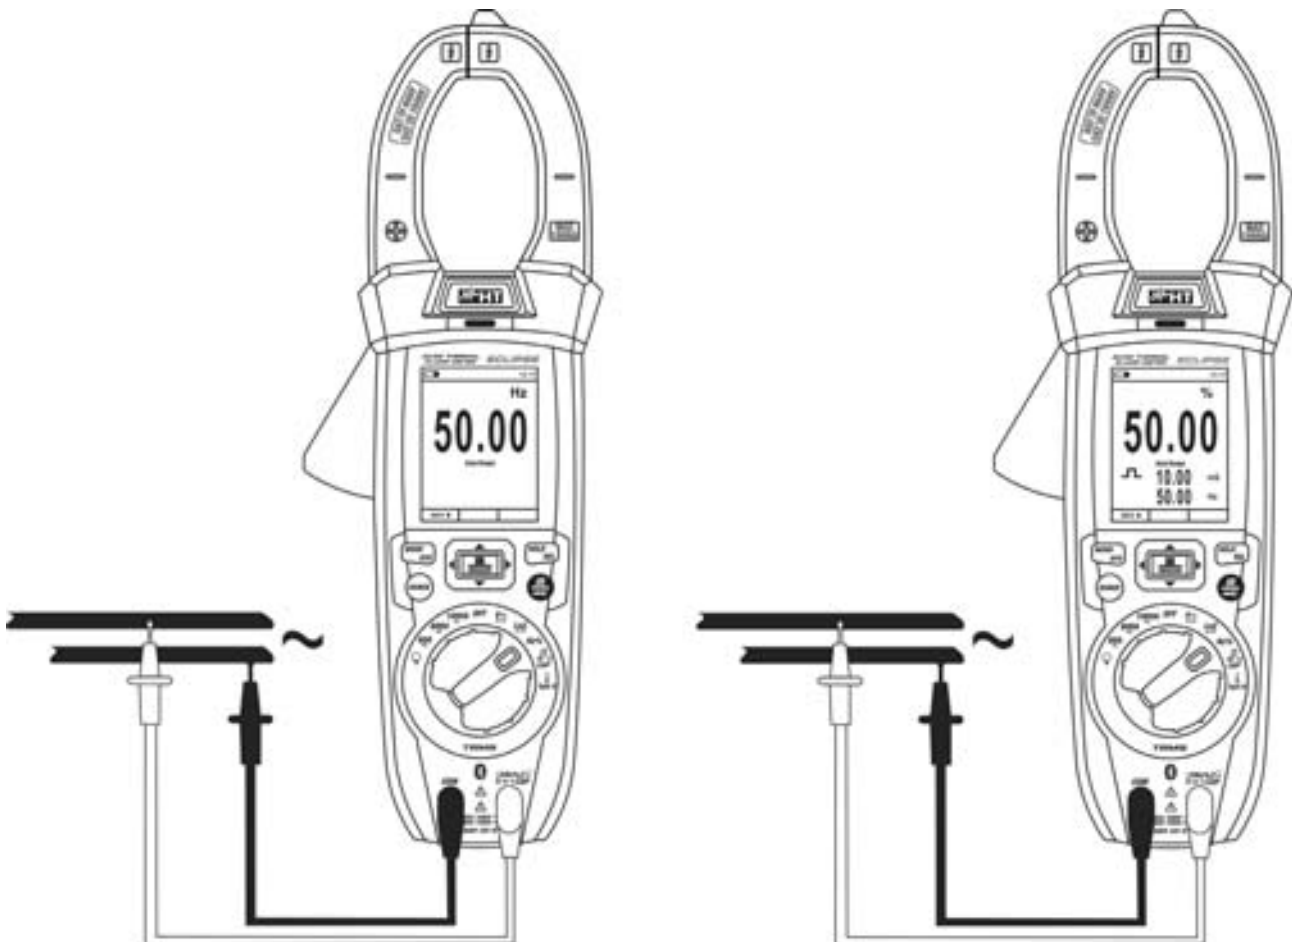

Fig. 26: Use of the instrument for frequency measurement and duty cycle test.
4. Position the red lead and the black lead respectively in the spots of the circuit to be measured (see Fig. 26). The value of frequency (Hz) or of duty cycle (%) is shown on the display. The bargraph is not active in these functions.